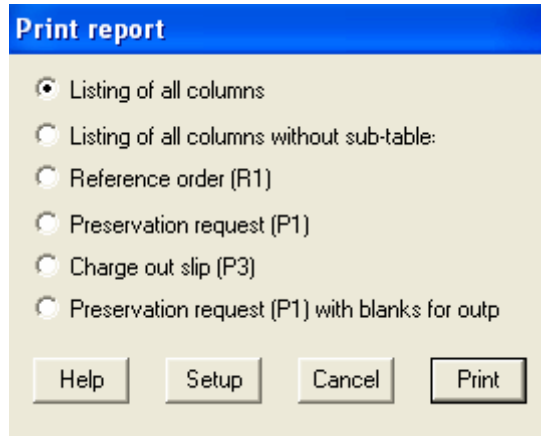

Figure 117: Report Option Box
12. Printing reports: to print a report for the current main row, press the Reports button. Catalog Reports will be discussed in detail in Section 19.2. The Print Report option box is shown in Figure 117: Report Option Box.